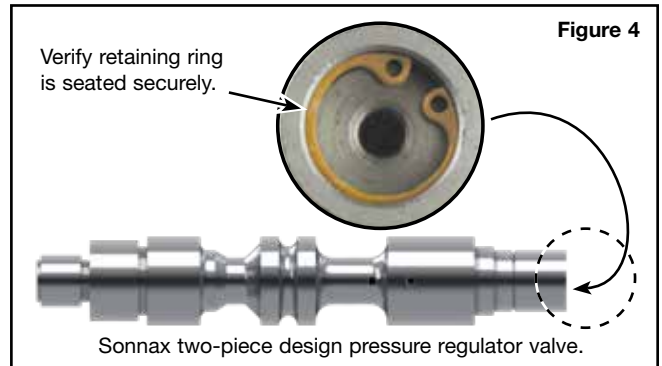

Figure 4
NOTE: The Sonnax pressure regulator valve is a two-piece design that is held together with a retaining ring. Before installation, verify retaining ring is seated securely (**Figure 4**).
- Adjust the pressure regulator adjusting screw so that there is a .300–.350" gap between the inside of the plates (**Figure 4**).